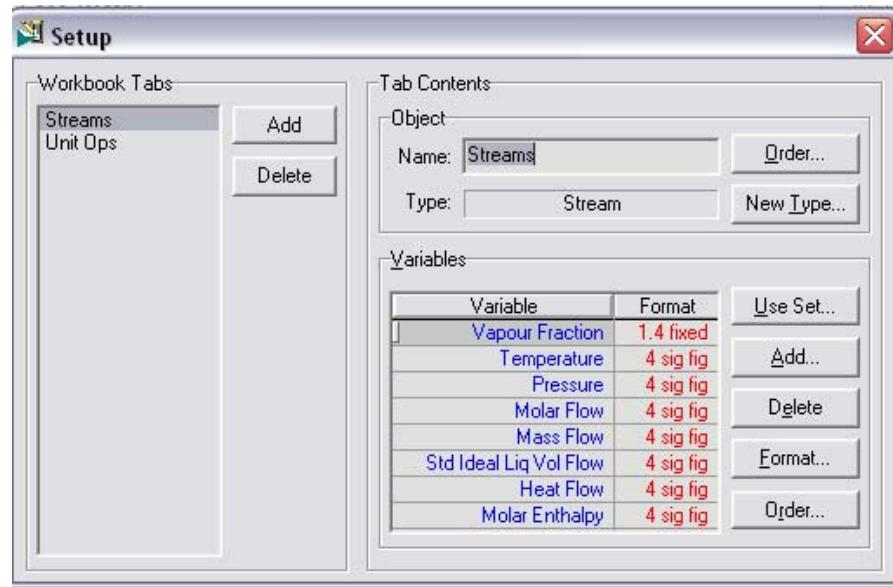

Figure 2-4
4. To add the Molar Volume or other variables, go to the **Workbook** menu and click **Setup**. The setup window for Workbook can be viewed as shown in Figure 2-4.